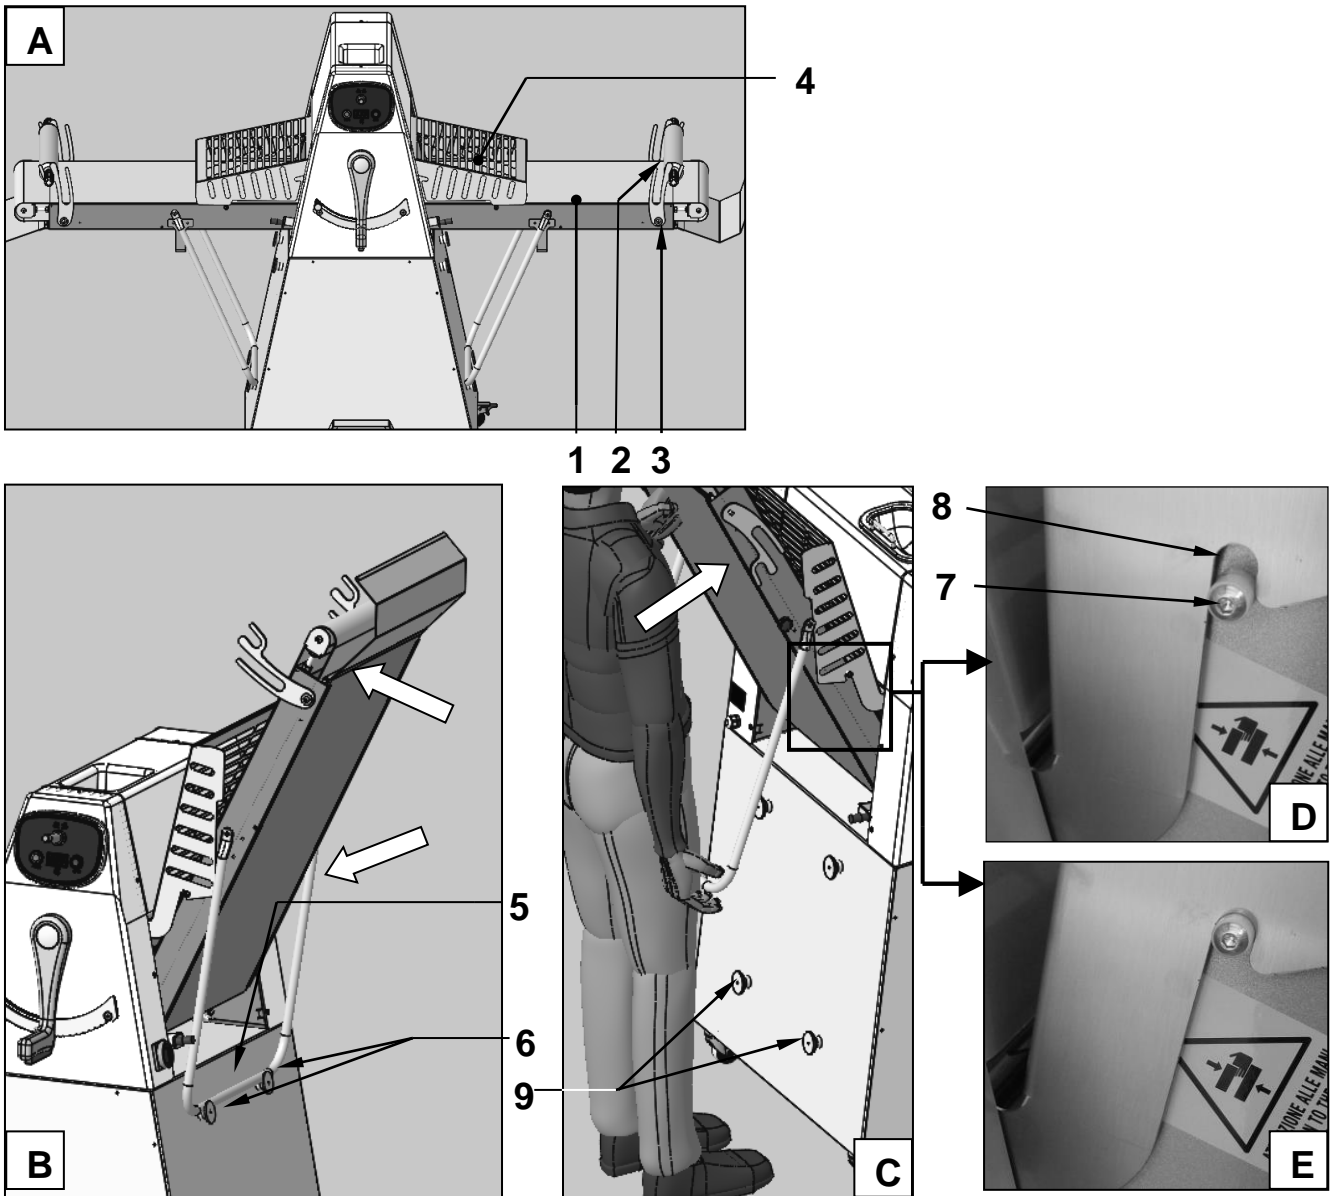

Fig. 4.5
To bring a bench ref. 1 (Fig. 4.5) from the position shown in photo A to the position shown in photo B or photo E:
- remove any rolling pins ref. 2 and lower their supports ref. 3;
- completely raise the guard ref. 4;
- lift the bench ref. 1 (photo B):
- for bench length  $\leq$  850 mm: while the operator holds the table up with one hand, he should use the other hand to bring the crossbar of the support ref. 5 to rest on the blocks ref. 6 (photo B);
- for bench length  $>$  850 mm: while one operator holds the bench up with both hands, the second operator should bring the crossbar of the support ref. 5 to rest on the blocks ref. 6 (photo B).